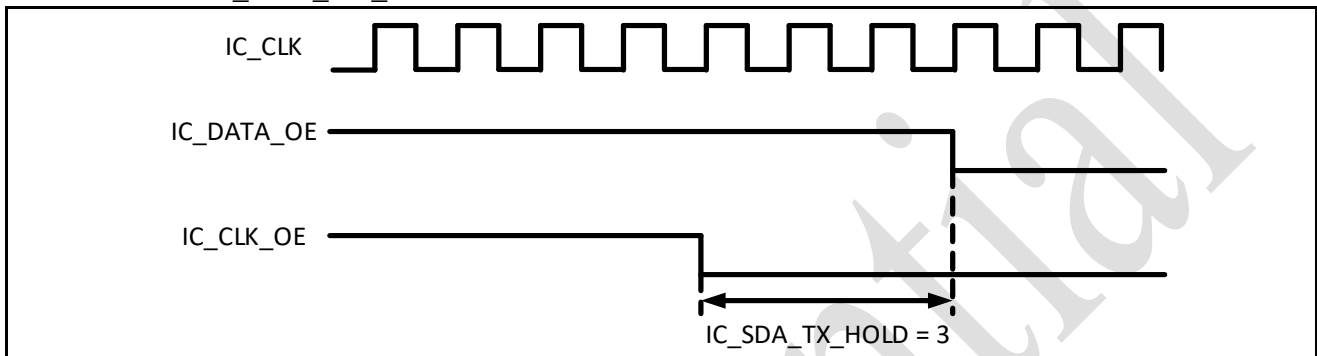

Figure 4-86 I2C Master Implementing tHD:DAT with IC\_SDA\_HOLD = 3
- Figure 4-86 shows the tHD:DAT timing generated by the I2C operating in Master Mode when IC\_SDA\_TX\_HOLD = 3.